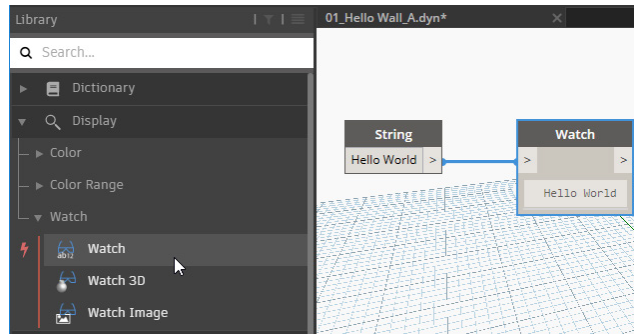

FIGURE 13
5. Drag it to the right of the **String** node and then wire the output of the **String** to the input of the **Watch** (see Figure 13). (If necessary, change Manual to Automatic at the bottom).